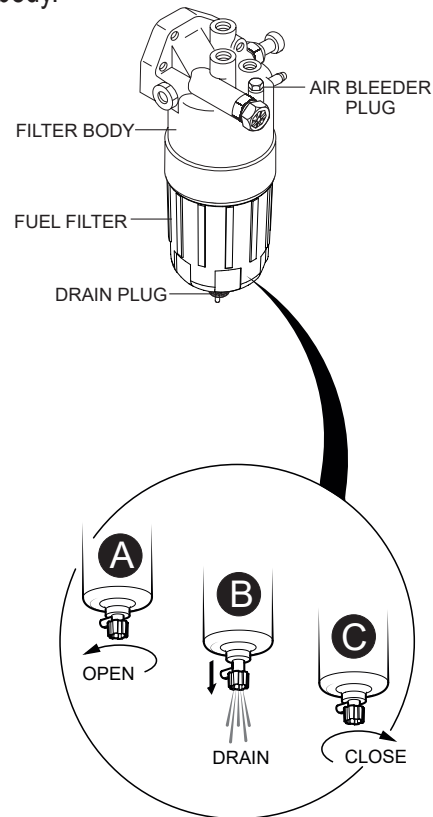

Figure 64. Draining The Fuel Filter
1. Loosen the **air bleeder plug** (Figure 64) on the fuel filter body.